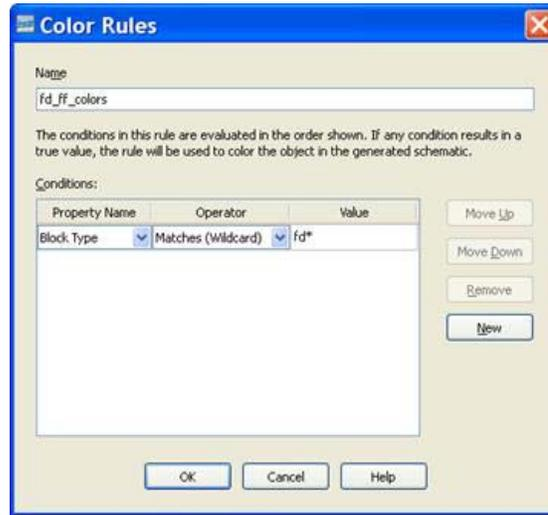

Figure 7-9: Color Rules Dialog Box
- Select **Block Type** for Property Name, then select **Matches (Wildcard)** as **Operator**, and finally type `fd*` as a value as shown in Figure 7-9, and press **OK**.